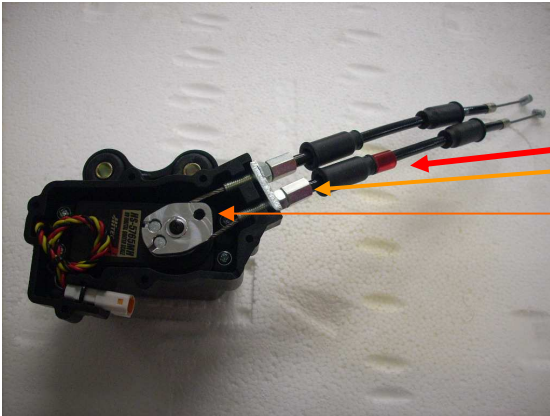

Figure 1
- 6) Line up the pulley reference hole (ref.A Figure 1) and the cover one through the two cables.